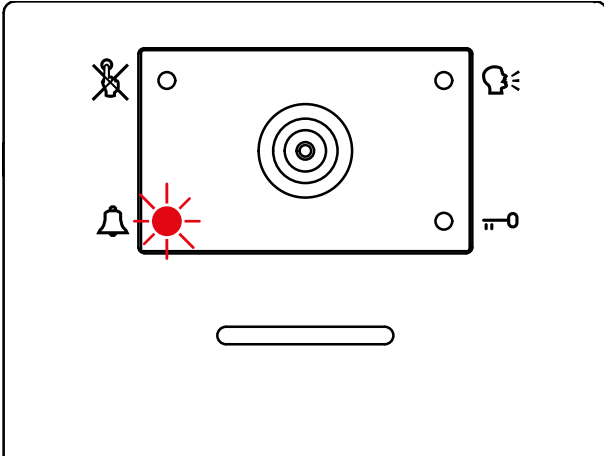

Fig. 7 Call in progress
- When a visitor press a call button the units emits an intermittent deep call tone and in correspondence with the tone the  red LED flashes (Fig. 7) until the resident answer or the programmed call time expires.